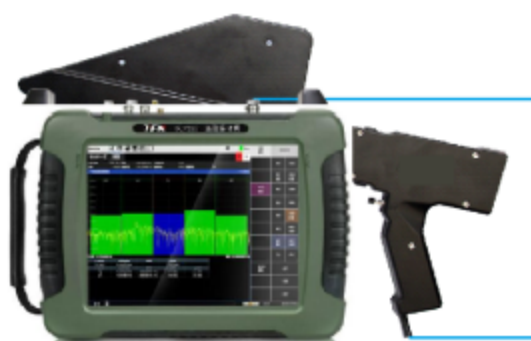

Figure 7.23 Schematic diagram of handheld DF antenna and RMT series spectrometer
- Step 1. Connect the handheld direction finding antenna to the RF input port of RMT series spectrometer, connect the GPS antenna, and measure after GPS synchronization successfully, as shown in Figure 7.23: